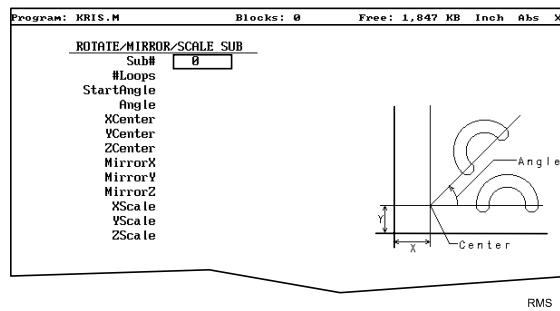

Figure 4-29, ROTATE/MIRROR/SCALE SUB Graphic Menu
2. Press **RMS (F6)**. The **ROTATE/MIRROR/SCALE SUB** Graphic Menu prompts for labeled values. Refer to Figure 4-29.